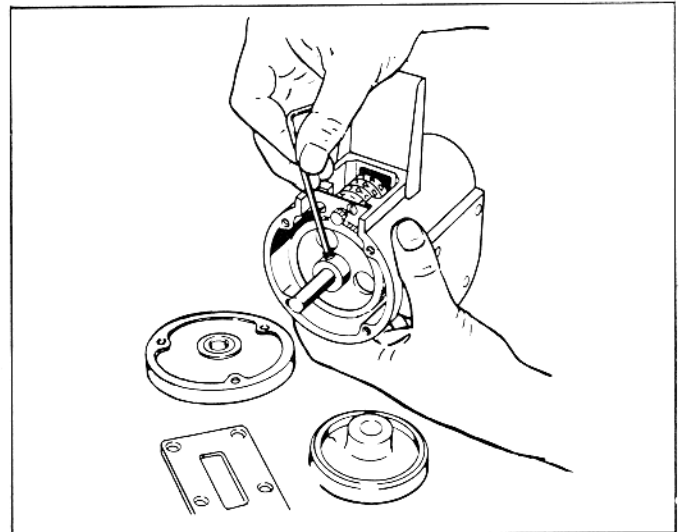

Fig. 3 — Loosening Setscrew in Micro Control Gear.
To match the counter reading with the proper liner position, loosen the liner lock screw on the head and turn the micro-control knob clockwise as far as it will go, finger tight. Counter should read to within 5 or 6 digits from 2000. If it does not, remove the plexiglass top, control knob, and front cover from the micro-control housing. Loosen setscrew in gear hub and slide gear back on the control shaft, disengaging it from pinion on the control counter (Figure 3). Turn counter to read 2000, re-engage gear, and tighten setscrew. Replace front cover and plexiglass top.
3. Lock liner in place with liner lock screw on head. Remove the plexiglass top, control knob, and front cover from the micro-control housing. Loosen set-screw in gear hub and slide gear back on the control shaft, disengaging it from pinion on the control counter (Fig. 3). Turn counter to read 2,000, re-engage gear, and tighten setscrew.